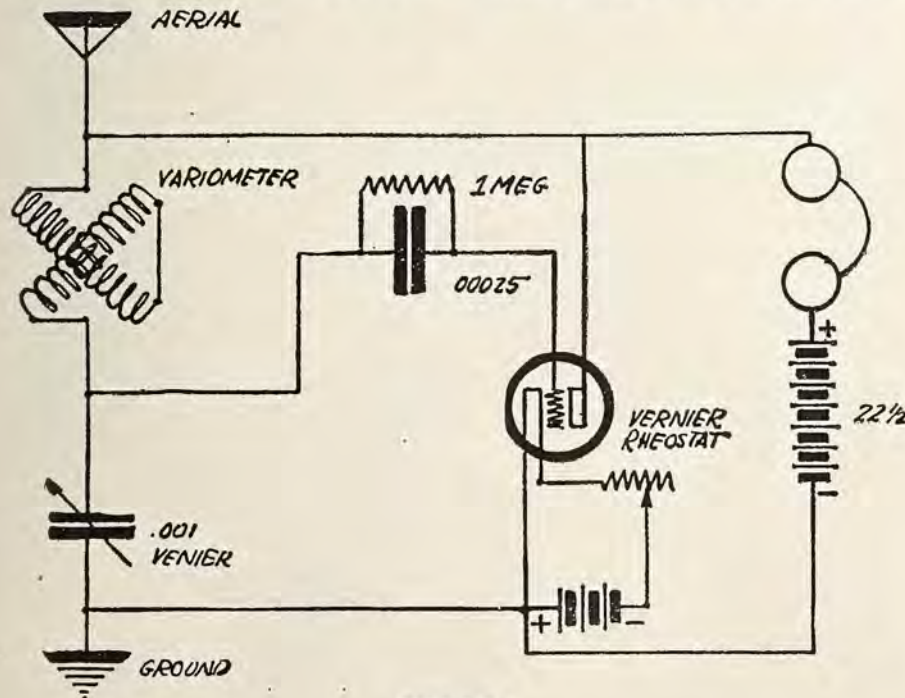

FIGURE 2
Starting at the left of the diagram we see the fixed coupler having the primary coil (L1) and the secondary coil (L2). The primary coil consists of 28 turns of No. 26 D. S. C. wire and the secondary contains 66 turns of the same wire. Both coils are wound on the same tube and are separated from each other by 5/8 inch as shown in Figure 2. The ends of the primary coil go to the aerial and ground posts, while the ends of the secondary connect respectively with the grid condenser and moving arm of the potentiometer (PO). Full details of the coil are shown by Figure 2.